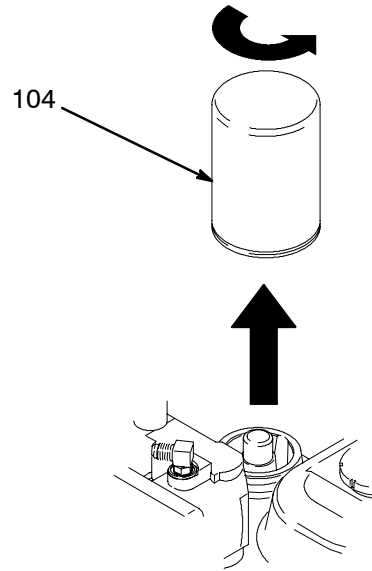

Fig. 8
1. Fig. 8. Place drip pan or rags under sprayer to catch hydraulic oil that drains out.
2. Remove drain plug (97). Allow hydraulic oil to drain.
3. Unscrew filter (104) slowly - oil runs into groove and drains out rear.